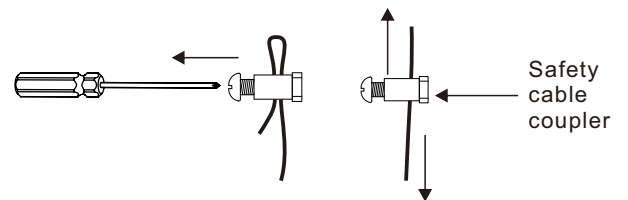
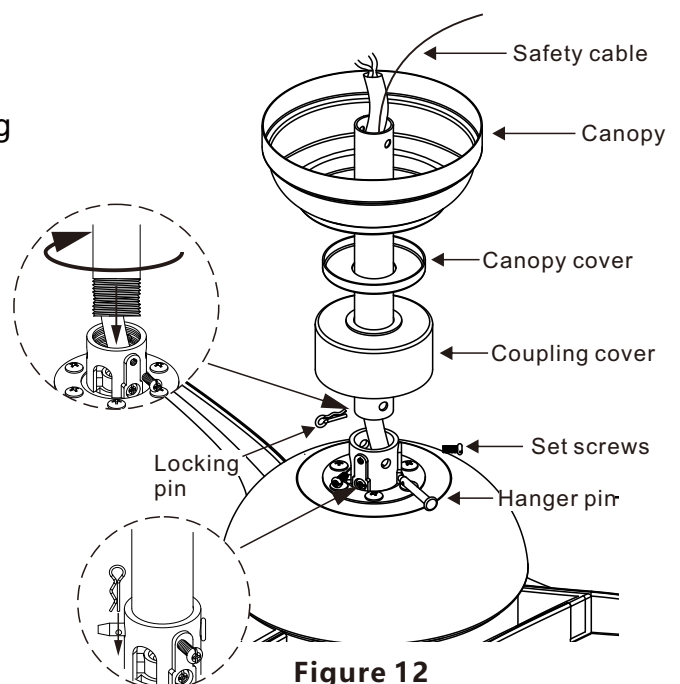

Figure 11
Figure 12
Loosen the screw on safety cable coupler, then remove the coupler from safety cable. Do not discard the coupler. (Fig. 11)
Step 5. Route the wires and safety cable coupler exiting from the top of the fan motor through the coupling cover, canopy cover and canopy, then through the ball/downrod. (Fig. 12)
Step 6. Thread downrod into the motor coupling until the holes on the downrod and coupling are lined up (Fig.11) Carefully insert the hanger pin through the holes in the collar and downrod. Be careful not to jam the pin against the wiring inside the downrod. Insert the locking pin through the hole near the end of the hanger pin until it snaps into its locked position, as noted in the circle inset of (Fig.12)
Step 7. Tighten two set screws against the downrod on the coupling firmly. (Fig. 12)